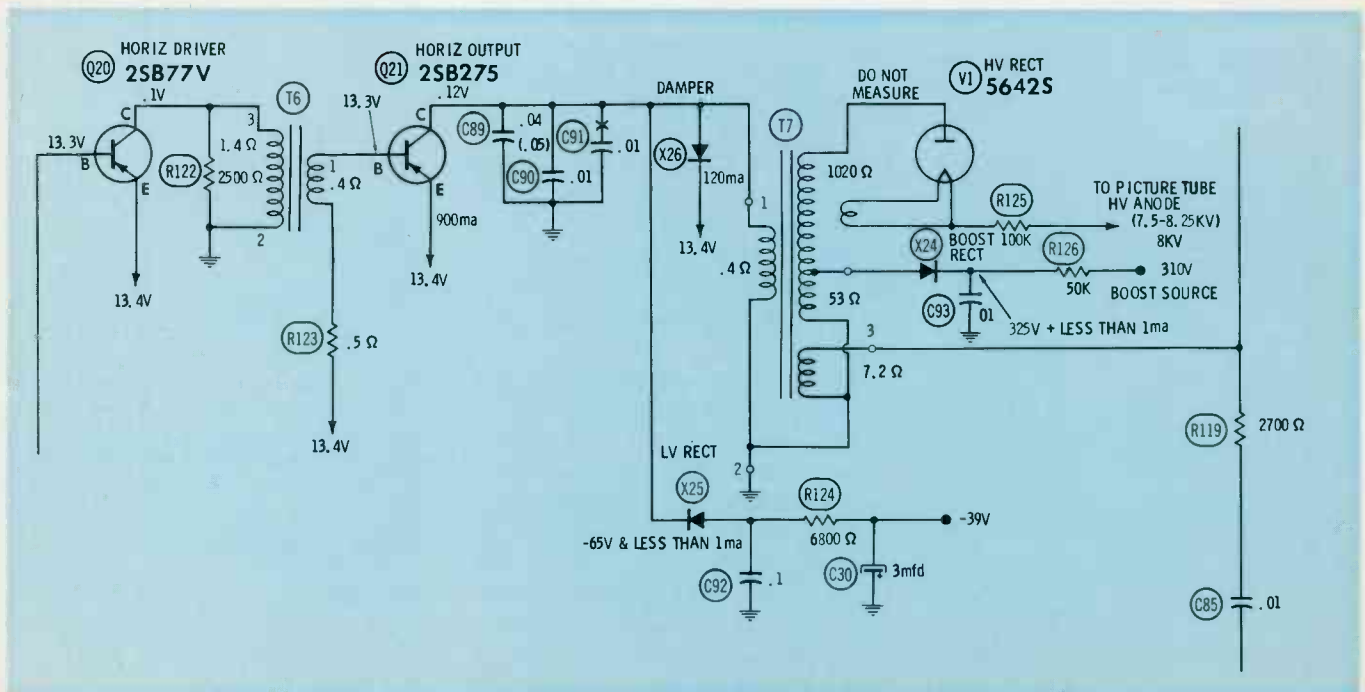

Fig. 22. R125 in this circuit is a high-voltage protective resistor.
- Increase in value of the high-voltage protective resistor (R125 in Fig. 22).
As noted previously, unstable horizontal sync can result from certain defects in the horizontal-sweep system. For example, the AFC winding on T603 in Fig. 11 might have shorted turns, or leakage to the core. Resistor R614 can increase in value, since it carries a pulse current. In Fig. 22, C85 could be defective. Leakage between printed-circuit conductors can also cause trouble.